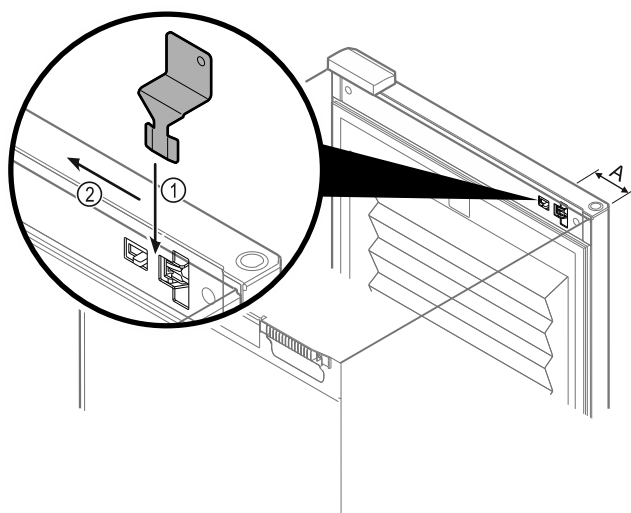

Fig. 217
- Insert the emergency release key in the specified position Fig. 217 (A) \approx 100 mm.
- Insert the emergency release key Fig. 217 (1) between the door and the body of the appliance from above to the end stop.
- Pull the emergency release key towards the hinge. Fig. 217 (2)